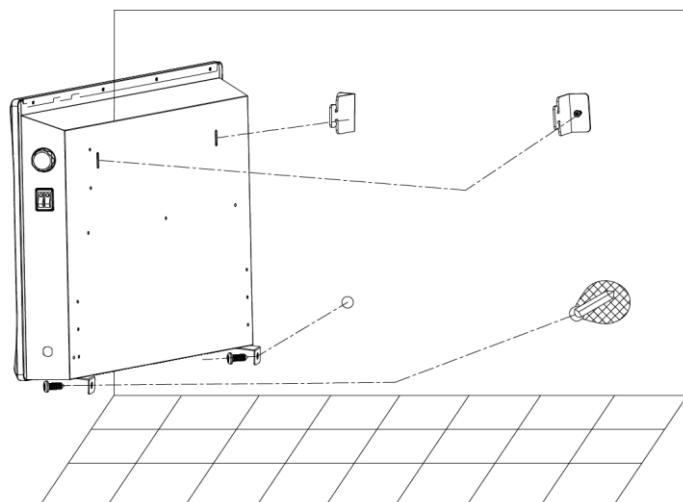

Fig. 7
7. Place the device on the wall, hanging it on the brackets and fixing it with screws through the fasteners in the lower part of the device (Fig. 7).